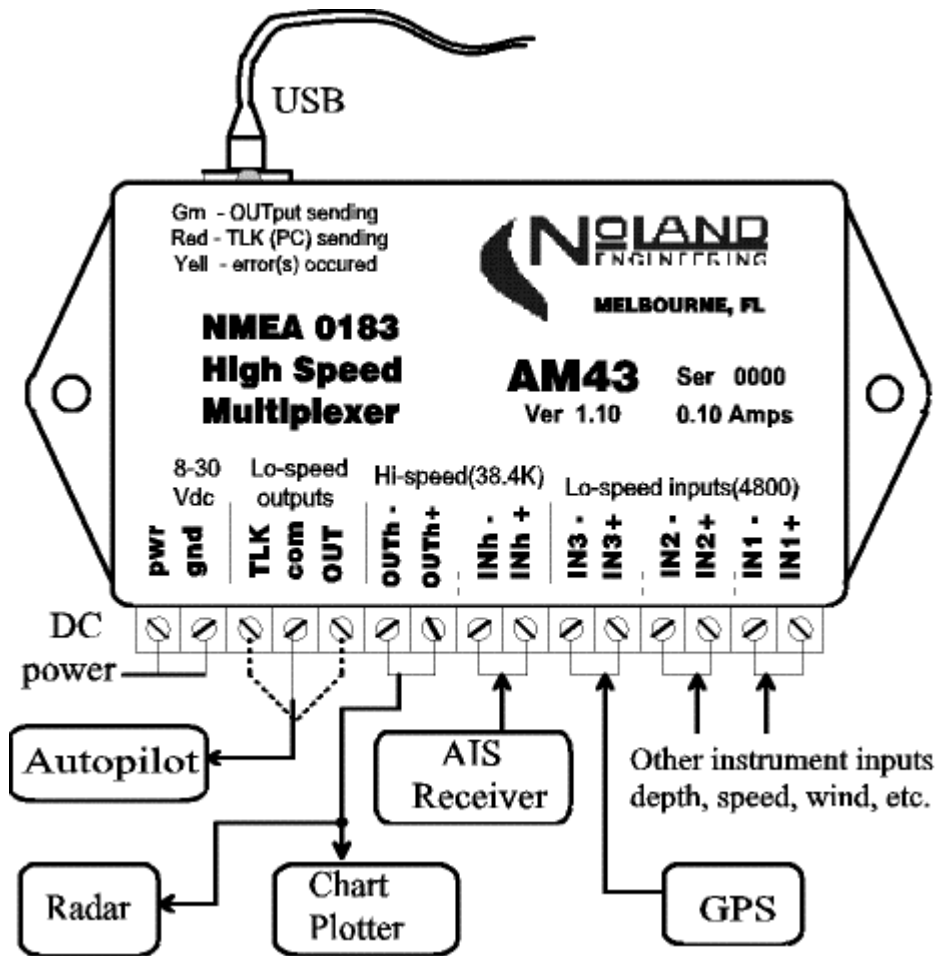

Figure 3. Typical Installation
- Figure 3 – Connecting Single-ended devices
The AM43 can also be used without the USB connection. To connect to a computer or other device with an RS-232 port, connect to the **OUT** terminal as shown. To connect the **OUTH** signal to an RS-232 input, use only the **OUTH+** terminal and leave the **OUTH-** terminal disconnected. Figure 3 shows the connection. An RS232 interface can also be directly connected to **OUT** or **TLK** in a similar fashion